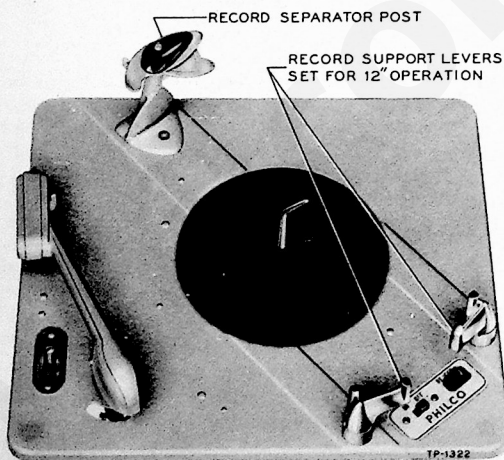

Figure 3. CHANGER SET FOR 12" AUTOMATIC OPERATION
1. Without using a record, place the tone arm on its rest, set both record support levers and the record-separator post to their 12" positions, as shown in figure 3. Set the manual-automatic lever to **AUT**. Turn the motor **ON** and operate the **REJECT** control; the changer should go through its cycle. Watch the tone arm swing out; it should clear the arm rest. At the completion of the cycle, the point of the needle should clear the changer base plate by  $\frac{3}{32}$ ".